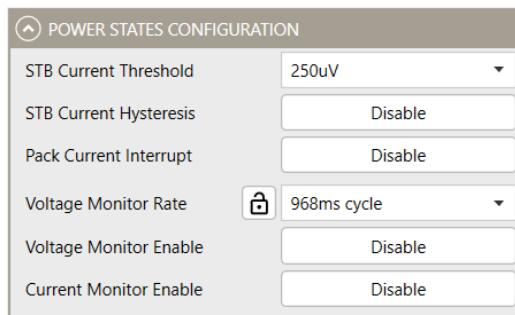

Figure 12: Power Status Configuration
- Figure 12 shows how to configure the power status.